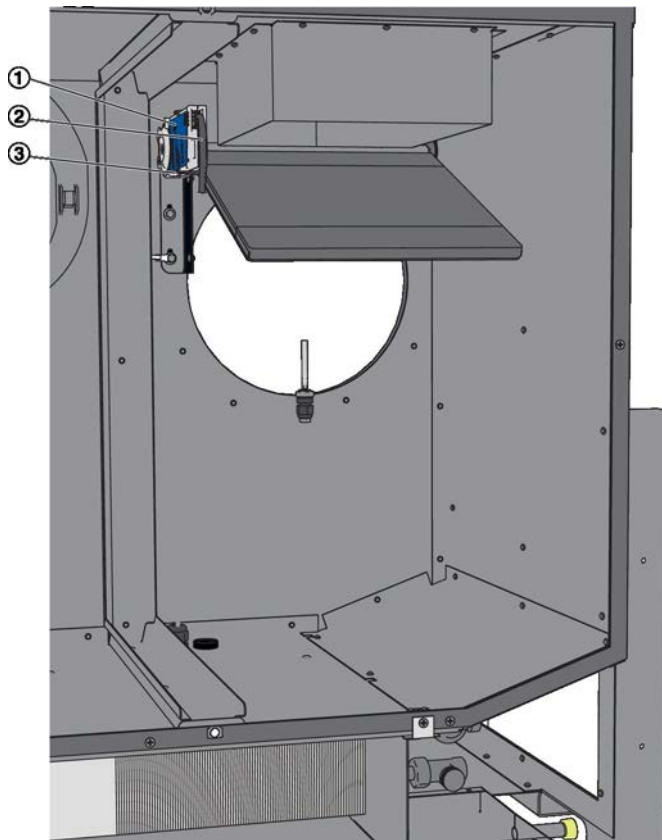

Fig. 29: Replacing an actuator
4. ▶ Remove the plug of the connecting cable (Fig. 29/2) from the actuator (Fig. 29/1).
5. ▶ Release the actuator from the retaining bracket (Fig. 29/3) and fit a new actuator.